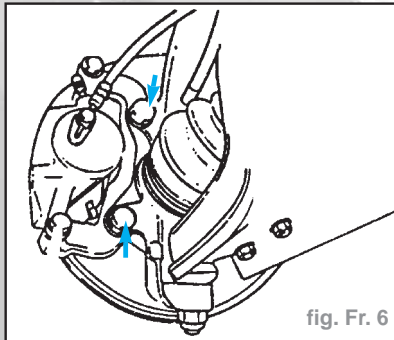

fig. Fr. 6
• Le support d'étrier, deux vis (flèches) (fig. Fr. 6)